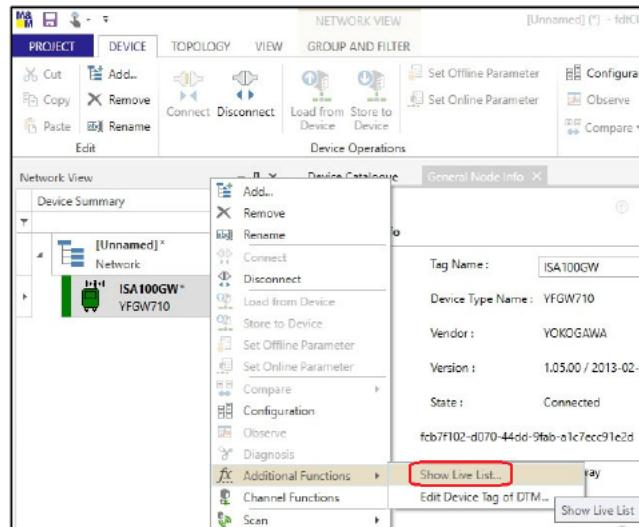

Figure 5-42 Selecting "Show Live List..." menu
- ④ Next, check to confirm that fdtCONTAINER and the ISA100.11a wireless upstream system are correctly connected. Right-click “ISA100GW” in the tree menu on the left side of the main window, then select “Show Live List...”. (Figure 5-42)